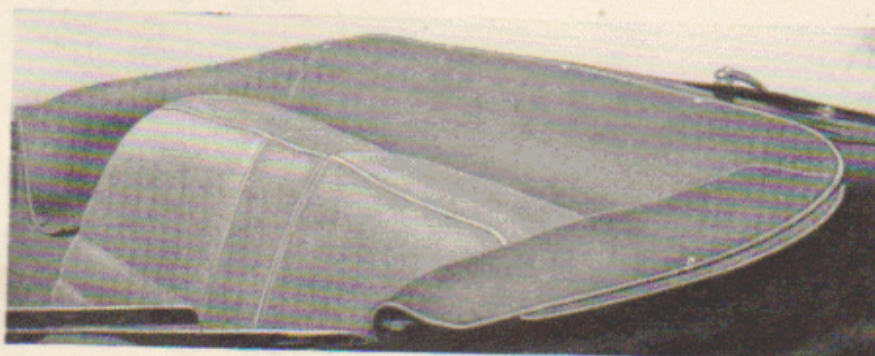

Fig. 28. Hood folded, envelope fitted.
4. An envelope is provided which can be slipped over the hood when folded and fastened with press studs (see Fig. 28).